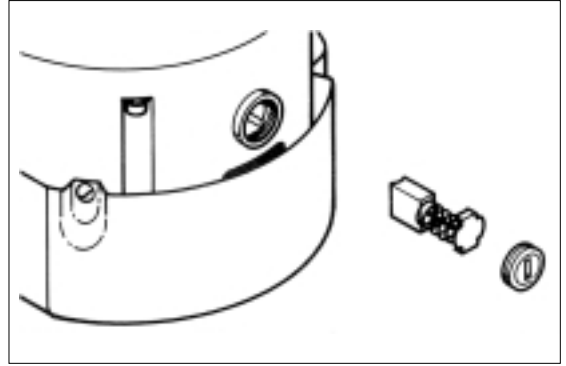

Figure 6 - Feed Motor Brush Replacement
2. Unscrew the brush retaining plugs from the motor and remove the brushes. Note how the brushes are positioned in the motor, Fig. 6.